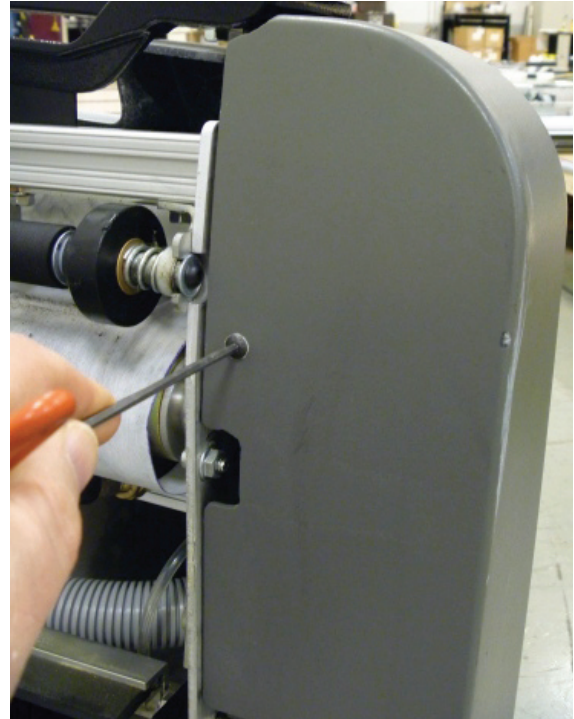

Figure 3
3. Using a 1/8" Allen wrench, remove the 7pin side cover. Refer to *Figure 3*.